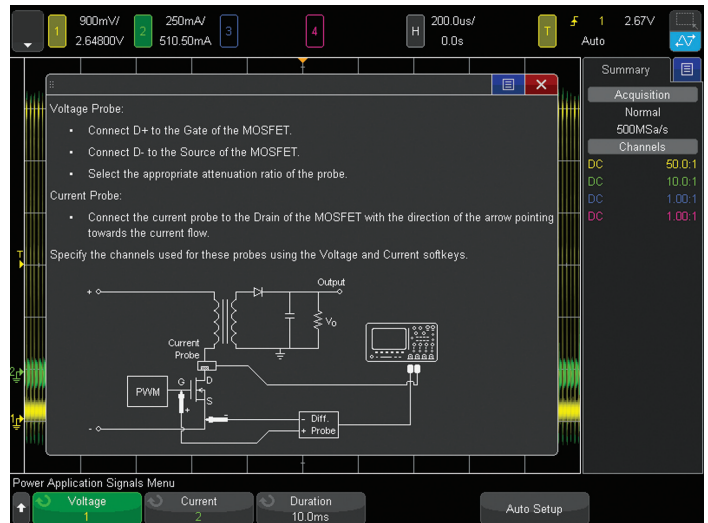

Figure 24: Modulation measurement connections diagram
4. Connect the N2790A voltage probe between channel-1 of the scope to the gate/base (red lead) and source/ emitter (black lead) of your switching transistor as illustrated in the on-screen connections diagram of Figure 24. Note that although the connection diagrams also shows a current probe connected to the drain, this probe connection is not necessary for this measurement.